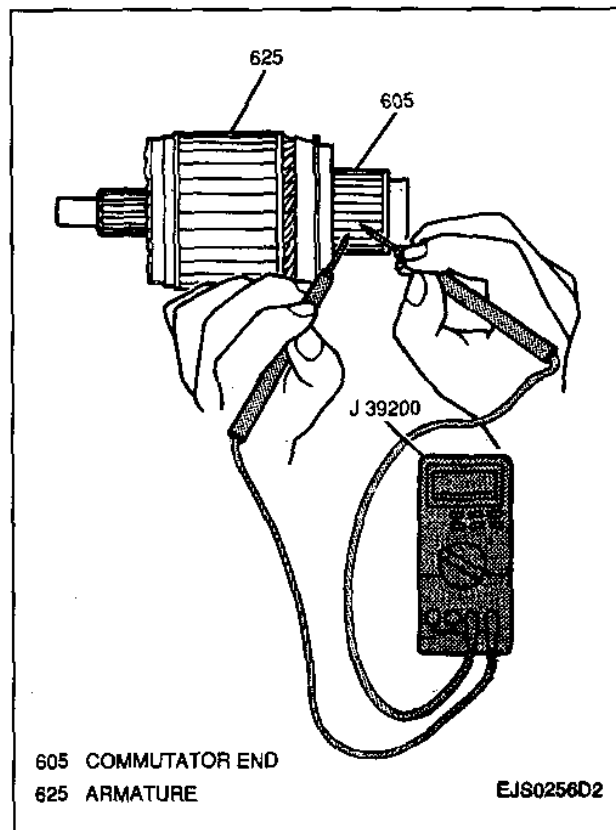

Figure 25—Measuring Commutator Resistance
5. Resistance between commutator segments using the J 39200 (Figure 25). If resistance is not 5.0 ohms or less at any test point, there is an open circuit in the commutator and the armature must be replaced.